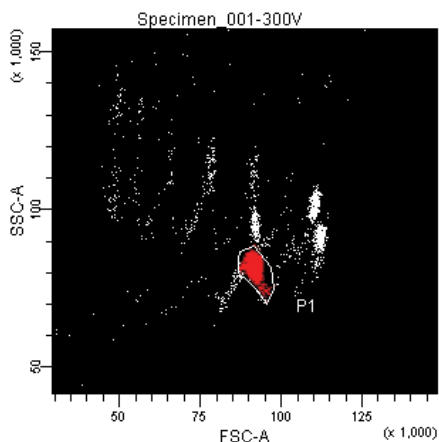

Figure 1. Profile of dim calibration particles (1A) in a zoomed-in plot (1B).
15. Adjust the FSC and SSC voltage settings to position the main bead population at approximately 80,000 on each axis (*Figure 1*).